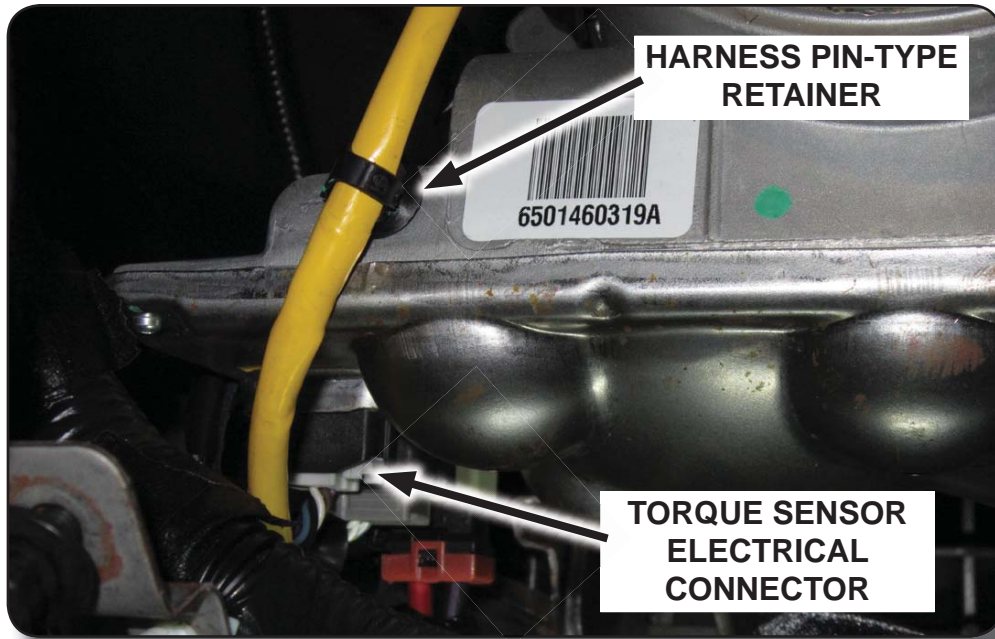

FIGURE 12
29. Connect the torque sensor electrical connector and install the harness push-pin retainer. See Figure 12.